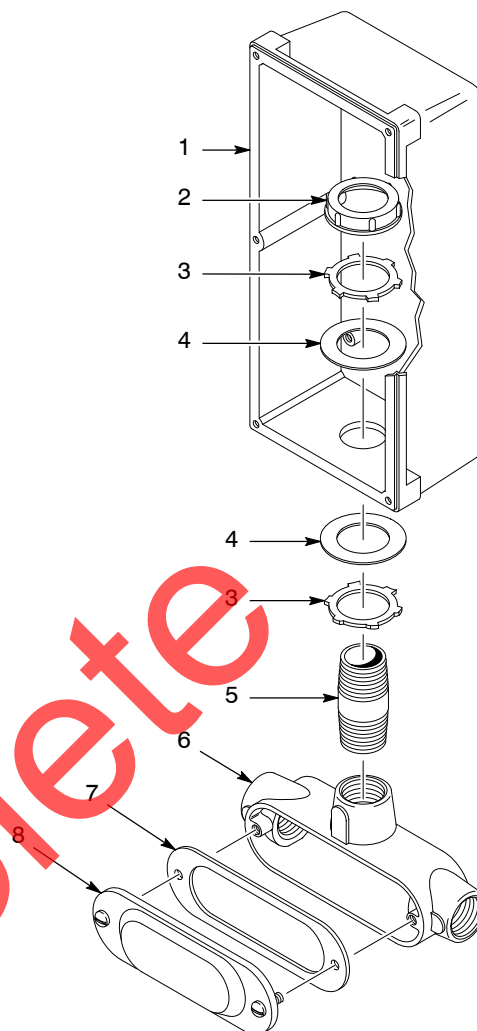
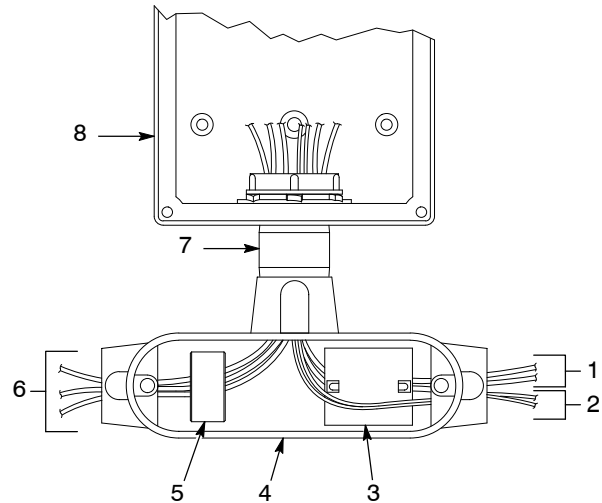

Figure 7 Installation Kit Hardware Installation
Figure 8 Ferrite and Wiring Installation
See Figure 7.
See Figures 8 and 9.
1. Route the power supply, lacquer applicator coil, and CleanSpray applicator coil wiring through the conduit tee and into the enclosure as shown in Figure 8.
- The power supply wiring (6) must be routed through the round ferrite (5) included with the controller.
- The CleanSpray applicator coil wiring (1) must be routed through the square ferrite (3). Snap the ferrite around the wiring.
3. See Figure 7. Install the gasket (7) and conduit cover (8) on the tee. Tighten the cover screws.